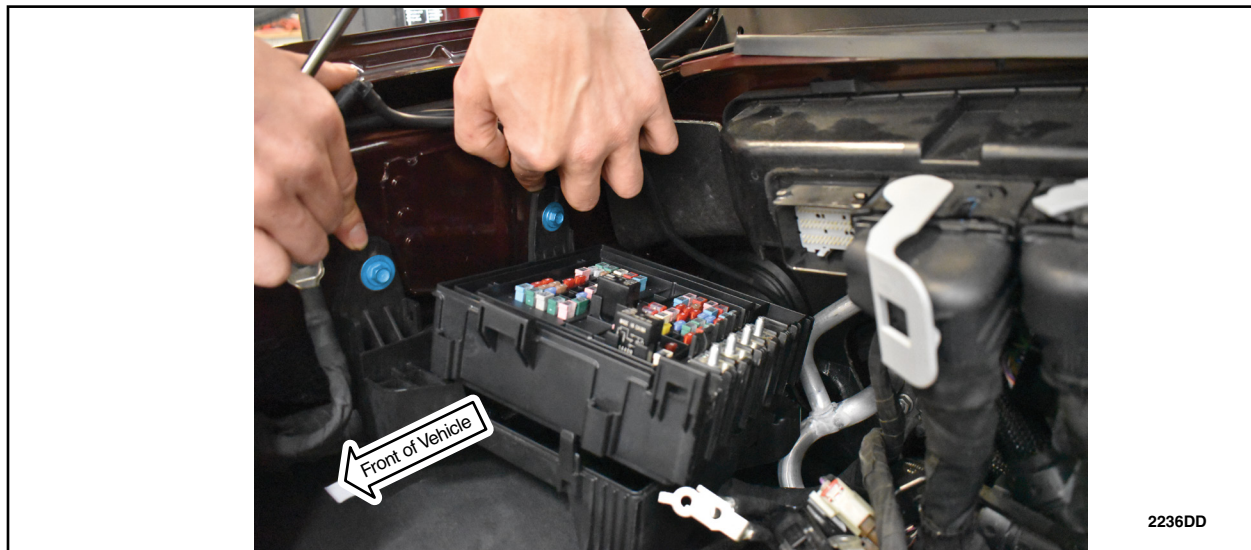

FIGURE 10
11. Remove the fasteners for the bottom cover of the BJB. See Figure 10.